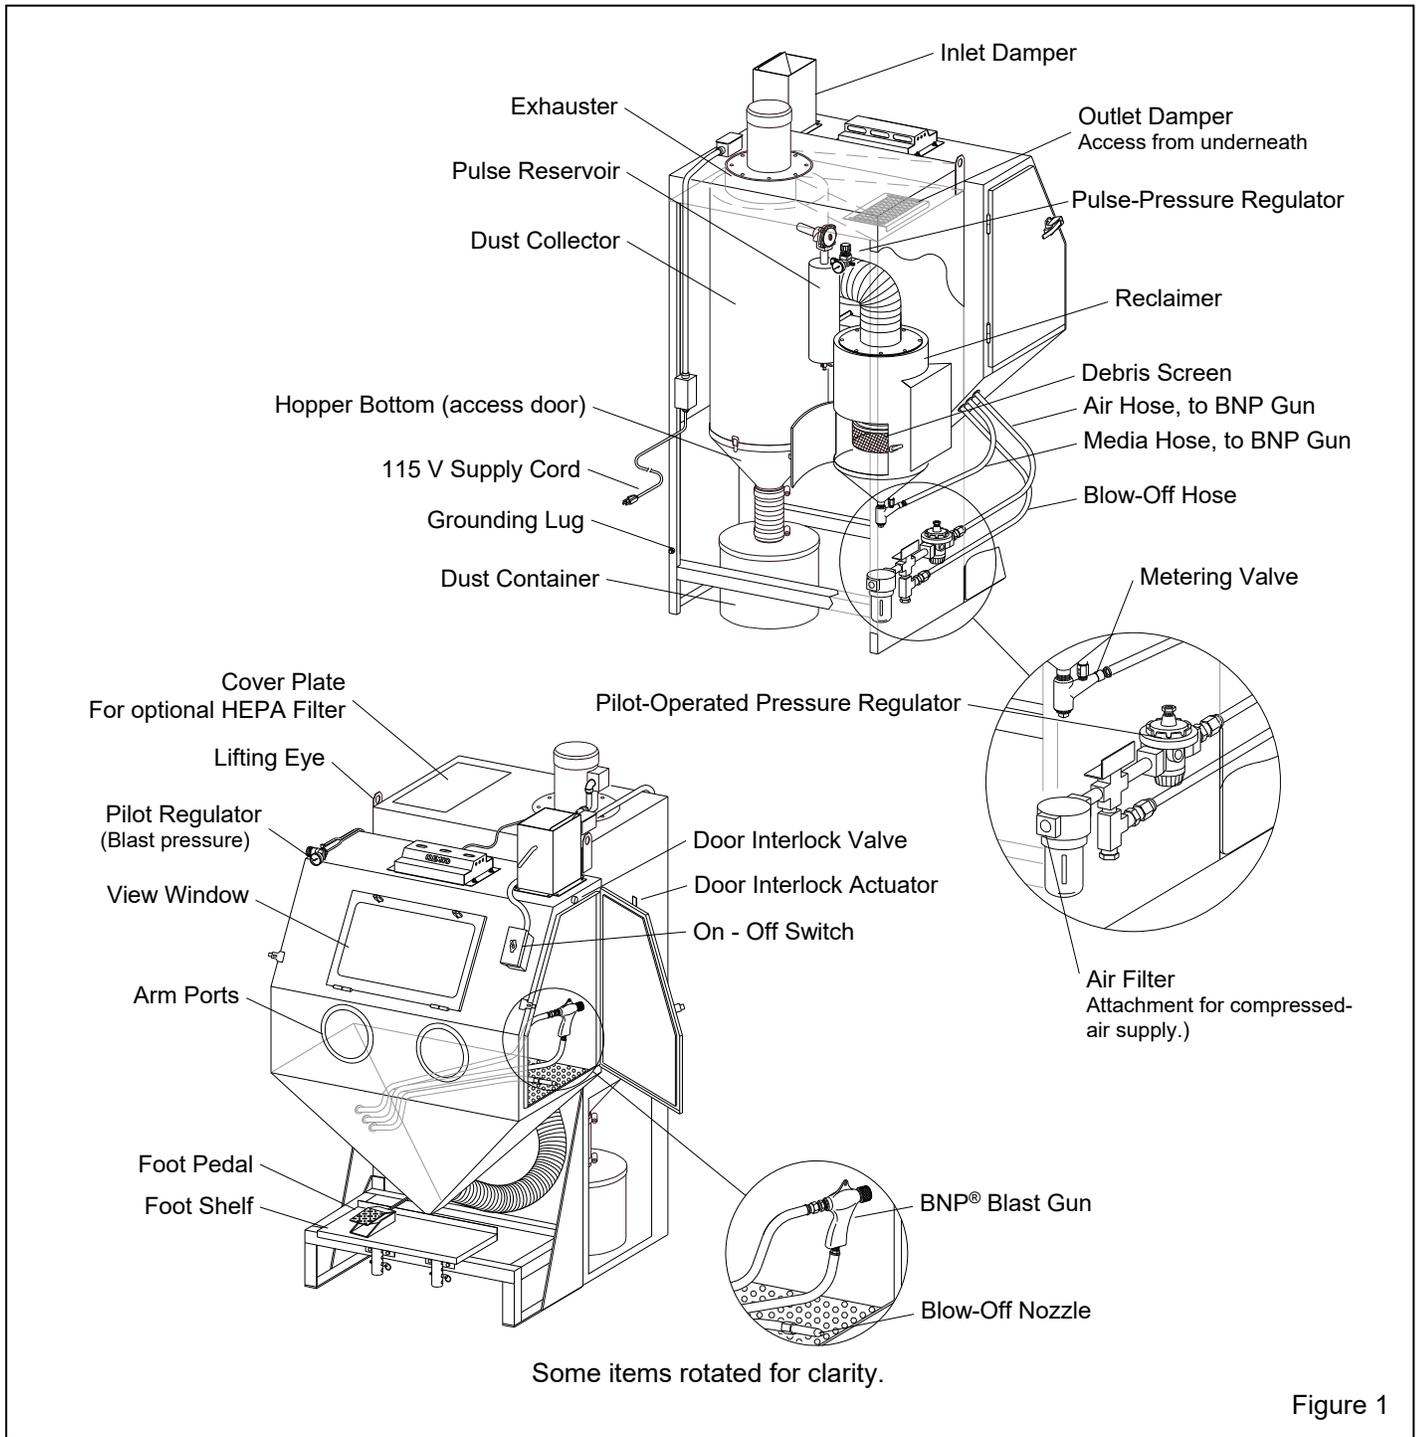

Figure 1
1.4.1 Refer to Figure 1 for arrangement of components. The Pulsar cabinet encloses the blasting environment to provide efficient blasting while maintaining a clean surrounding work area. Production rates are influenced by size of air jet and nozzle, compressor output, working pressure, type and size of media, and angle and distance of the nozzle from the blast surface. Pulsar 55se cabinets consist of two major components.